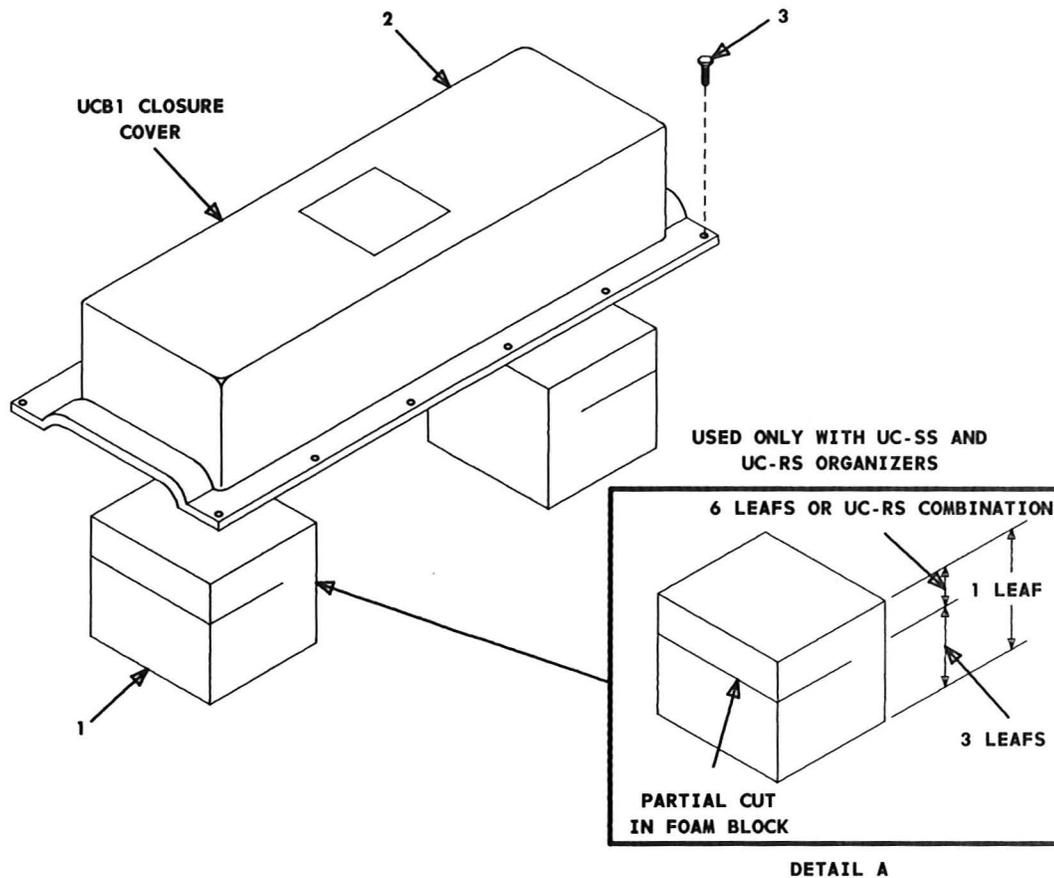

Fig. 40—Installation of Closure Cover
- 5.08 Install the UCB1 closure cover as outlined in Fig. 40.